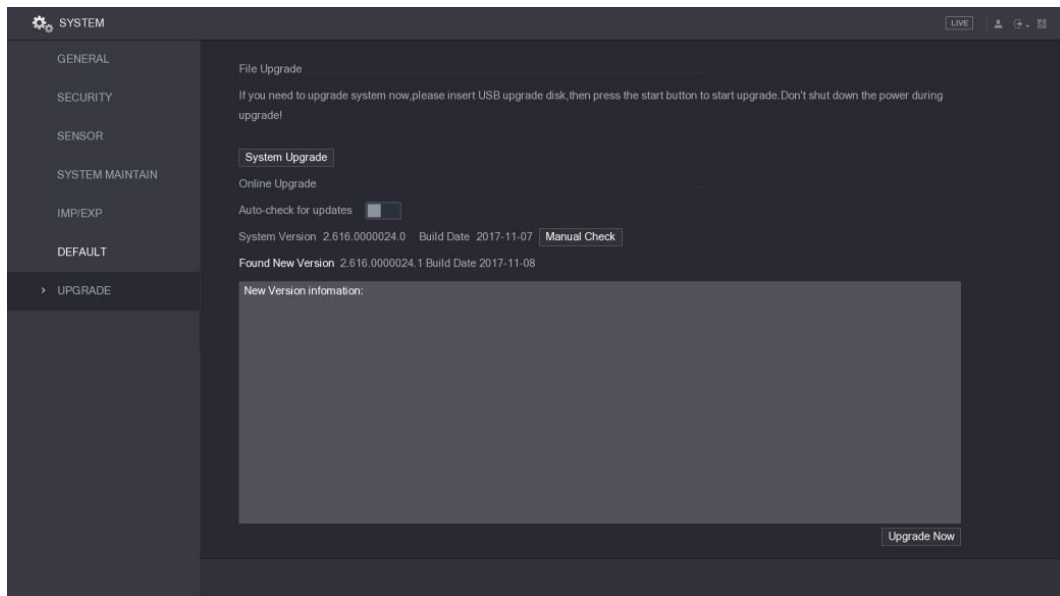

Figure 5-251
- If the text indicating there is a new version, please go the step 3. See Figure 5-251.